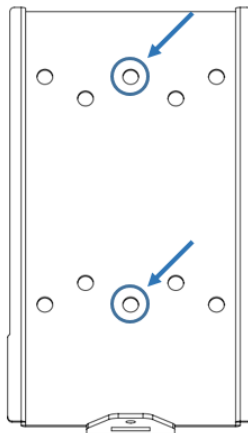

Figure 2-3 Mounting Bracket Screw Hole Locations
- 2.3.6** Install the EVSE (charging station box) bracket to one side of the pedestal so that the middle of the bracket is approximately 48 inches from the ground. Only two screws will be used to attach the mounting bracket to the pedestal, the screws should pass (install) through the middle two vertical screw holes of the mounting bracket as shown in Figure 2-3.